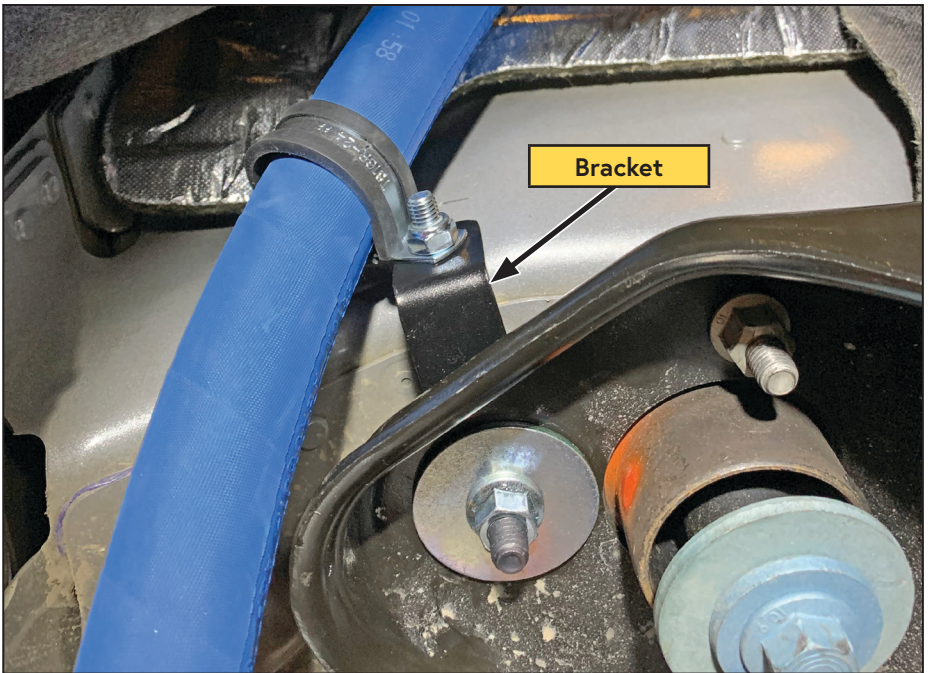

Figure 54 — Routing the hoses
- Secure the hose away from the sharp edge of the body mount using the supplied P-clip, bracket, bolt, nut and snubbing washer (Figure 54).